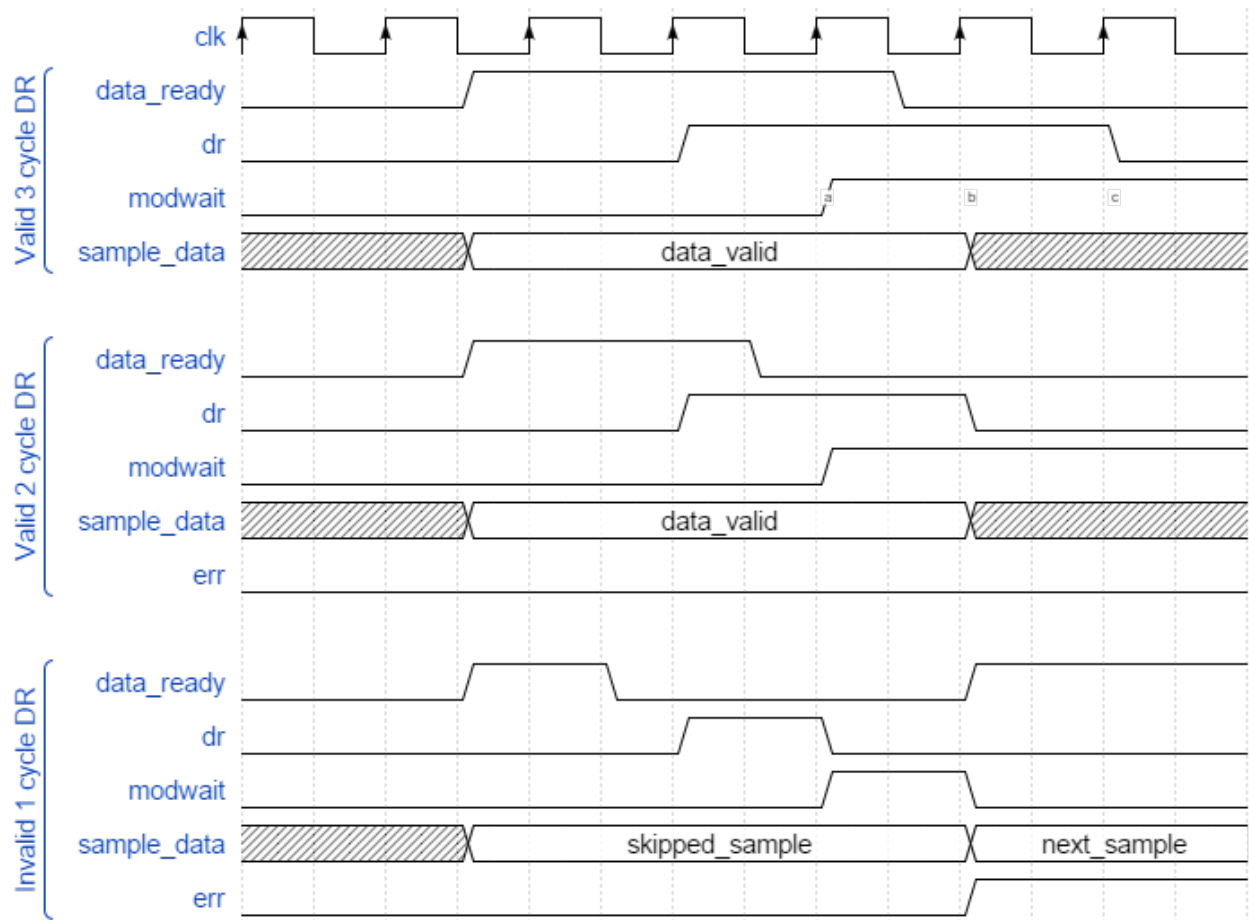

Figure 4: Data Processing Ignition Timing Diagram
Then the controller will manipulate the datapath to perform the FIR filtering algorithm presented in Figure 4 and explained in section Section 5.2.1. If at any point during the summation or multiplication an overflow occurs, stop processing, assert the error signal, err, and continue to the next step. (Cutting the addition short like this provides a small power savings.) If the dr signal goes low before the data is loaded the controller must stop processing it, assert the error signal, err, and not increment the counter. See Figure 4 for an example of correct behavior when dr is de-asserted before modwait is de-asserted.
**Data Processing Operation** The data\_ready input must be asserted until after the modwait output is asserted as shown in the first “Valid 3 cycle DR” portion of Figure 4. However due to the delay of the synchronizers between the data\_ready input and the dr internal signal a 2-cycle pulse of data\_ready will work as well. However, a 1-cycle pulse of data\_ready must result in immediate processing termination and error reporting as shown in the “Invalid 1-cycle DR” section of Figure 4.